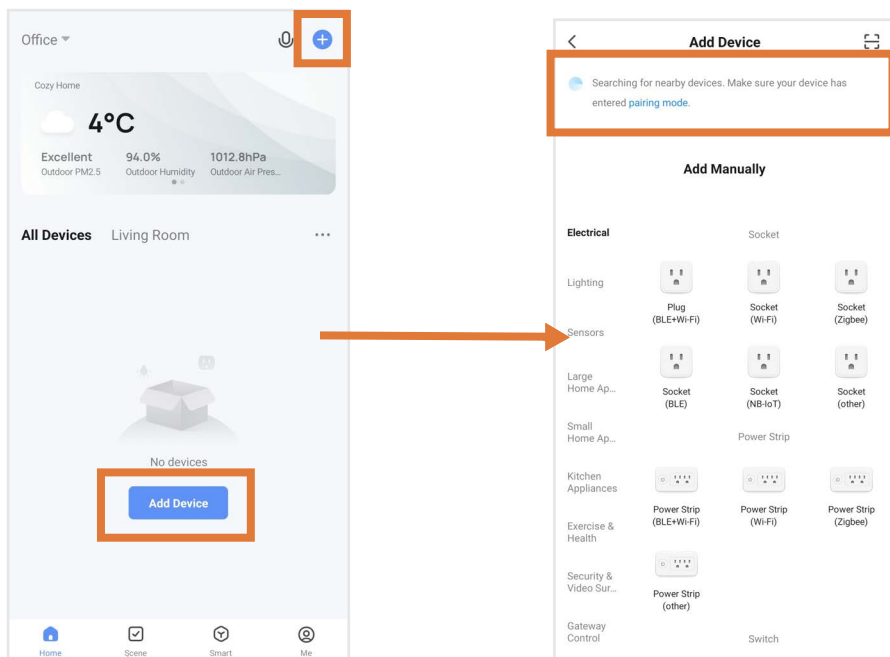

Figure 14 | Adding device on Smart Life app
4. The app will begin scanning, as shown by the spinning circle at the top of the screen. (**Figure 14**, page 37)